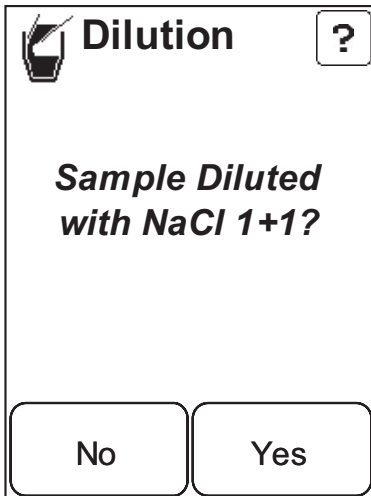

FIGURE 5-4
f) If the sample is diluted, press the Dilution button (2). *FIGURE 5-4* will be displayed.